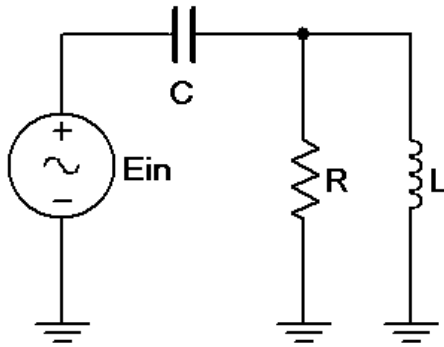

Figure 8.1
1. Using Figure 8.1 with a 10 kHz sine wave at 10 V p-p source, $R=1\text{ k}\Omega$, $L=10\text{ mH}$, and $C=10\text{ nF}$, determine the theoretical inductive and capacitive reactances, parallel branch reactance and total circuit impedance, and record the results in Table 8.1 (the experimental portion of this table will be filled out in step 5). Using Ohm's law and the voltage divider rule compute the capacitor and inductor-resistor voltages along with the input current and record them in Table 8.2.
2. Build the circuit of Figure 8.1 using $R=1\text{ k}\Omega$, $L=10\text{ mH}$, and $C=10\text{ nF}$. Set the generator to a 10 kHz sine wave and 10 V p-p. Make sure that the *Bandwidth Limit* of the oscilloscope is engaged for both channels. This will reduce the signal noise and make for more accurate readings.
15. Build the circuit of Figure 8.1 in a simulator. Using Transient Analysis, determine the voltage across the inductor and compare the magnitude and phase to the theoretical and measured values recorded in Table 8.2.
3. In general, how would the phasor diagram of Figure 8.1 change if the frequency was raised?